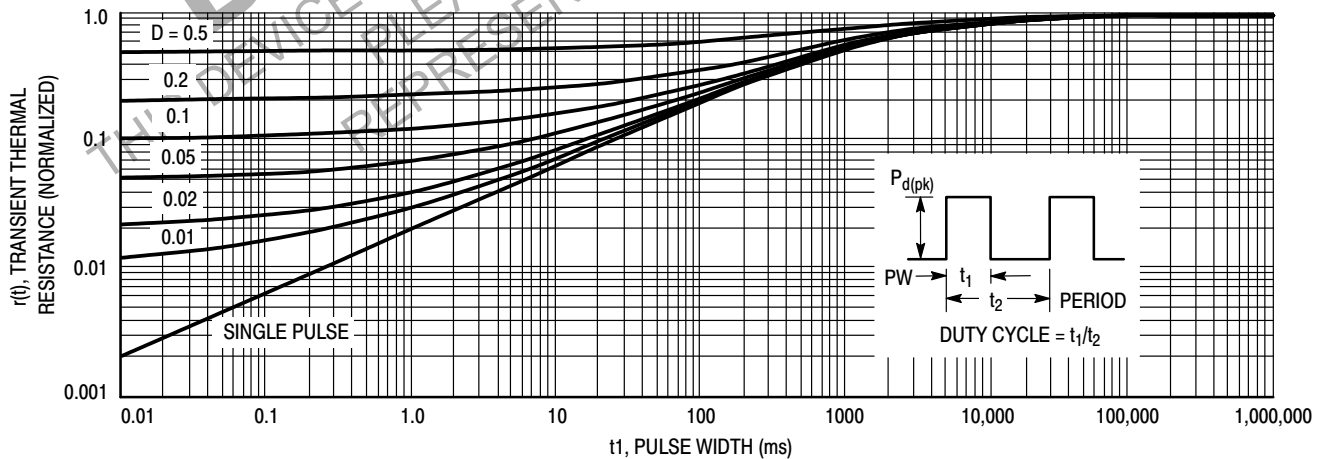

Figure 12. Transient Thermal Response for MDC3105LT1
Figure 12 of the MDC3105 data sheet plots its transient thermal resistance, $r(t)$ as a function of pulse width in ms for various pulse train duty cycles as well as for a single pulse and illustrates this effect. For short pulse widths near the left side of the chart, $r(t)$, the factor, by which the continuous duty thermal resistance is multiplied to determine how much the peak power rating can be increased above the average power rating, approaches the duty cycle of the pulse train, which is the expected value. However, as the pulse width is increased, that factor eventually approaches 1.0 for all duty cycles indicating that the pulse width is sufficiently long to appear as a continuous duty condition to this device. For the MDC3105LT1, this pulse width is about 100 seconds. At this and larger pulse widths, the peak power dissipation capability is the same as the continuous duty power capability.
To use Figure 12 to determine the peak power rating for a specific application, enter the chart with the worst case pulse condition, that is the max pulse width and max duty cycle and determine the worst case $r(t)$ for your application. Then calculate the peak power dissipation allowed by using the equation,
Thus for a 20% duty cycle and a PW = 40 ms, Figure 12 yields $r(t) = 0.3$ and when entered in the above equation, the max allowable $P_d(pk) = 390 \text{ mW}$ for a max $T_A = 85^{\circ}\text{C}$.
2. For pulsed operation, use the Transient Thermal Response of Figure 12 and the instructions with it to determine the maximum limit on transistor power dissipation for the desired duty cycle and temperature range.